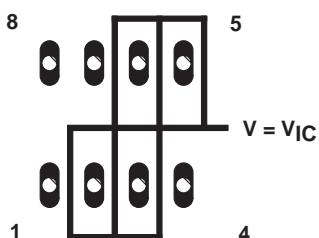

Figure 38. Isolation Metal Around Device Inputs (P package)
- Isolate the device from other potential leakage sources. Use a grounded shield around and between the device inputs (see Figure 38). Leakages that would otherwise flow to the inputs are shunted away.
Because of the extremely high input impedance and resulting low bias-current requirements, the TLV232x is well suited for low-level signal processing; however, leakage currents on printed-circuit boards and sockets can easily exceed bias-current requirements and cause a degradation in device performance. It is good practice to include guard rings around inputs (similar to those of Figure 38 in the Parameter Measurement Information section). These guards should be driven from a low-impedance source at the same voltage level as the common-mode input (see Figure 42).